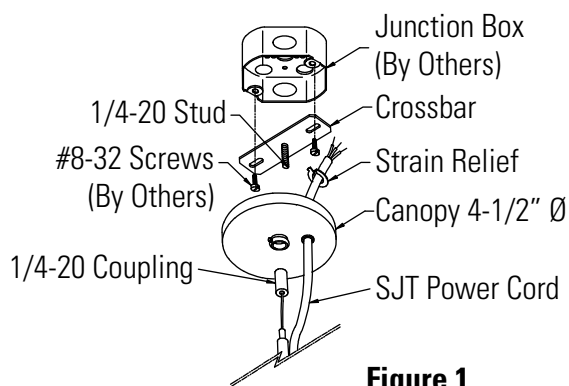

Figure 1
- Install the suspension assembly to the junction boxes. (Fig. 1)